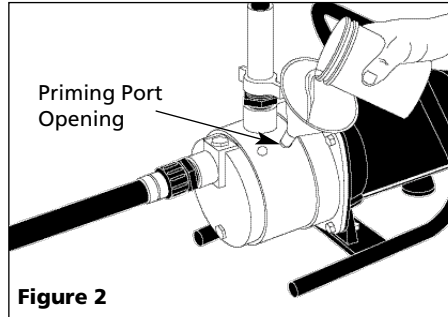

Figure 2
1. Remove priming port on pump and fill with water. Reinstall priming port on pump (see Figure 2). *For boosting water pressure: Do not remove priming port. Turn on water supply.*